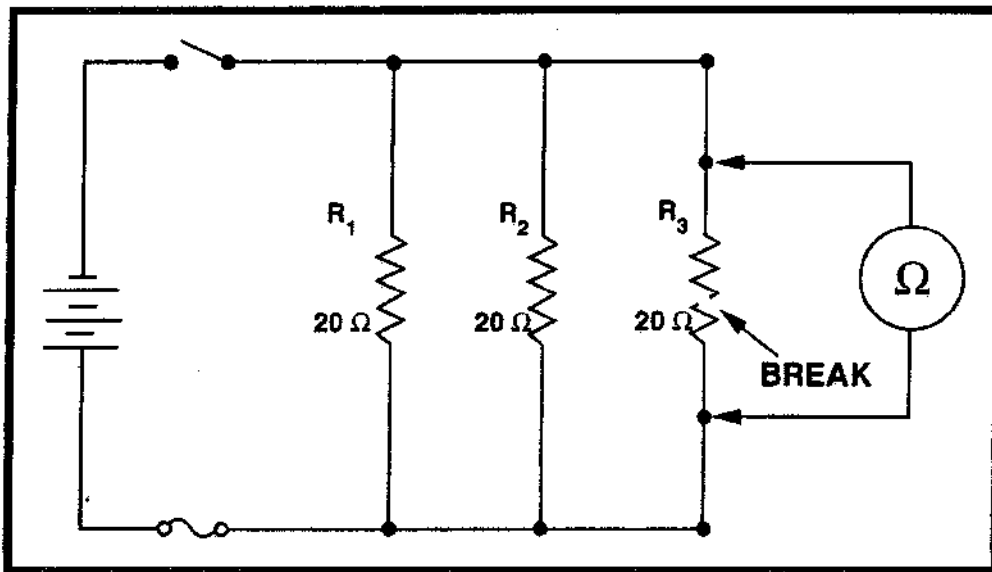

Fig. 9.7. Circuit Diagram.
24. (Refer to figure 9.7) With an ohmmeter connected into the circuit as shown, what will the ohmmeter read ?